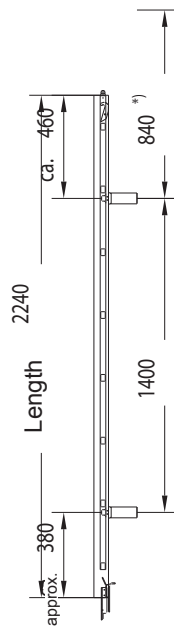

Fig. 10
- Length 1,960 mm: 7 kg (Fig. 10)